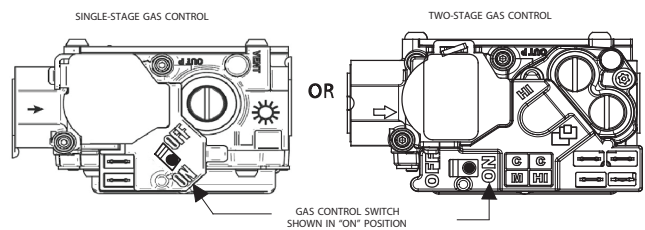

Fig. 11 - Control Switch to ON
6. After waiting 5 minutes, turn control switch on the gas control to the ON position. Turn the control switch to ON. See Fig. 11.